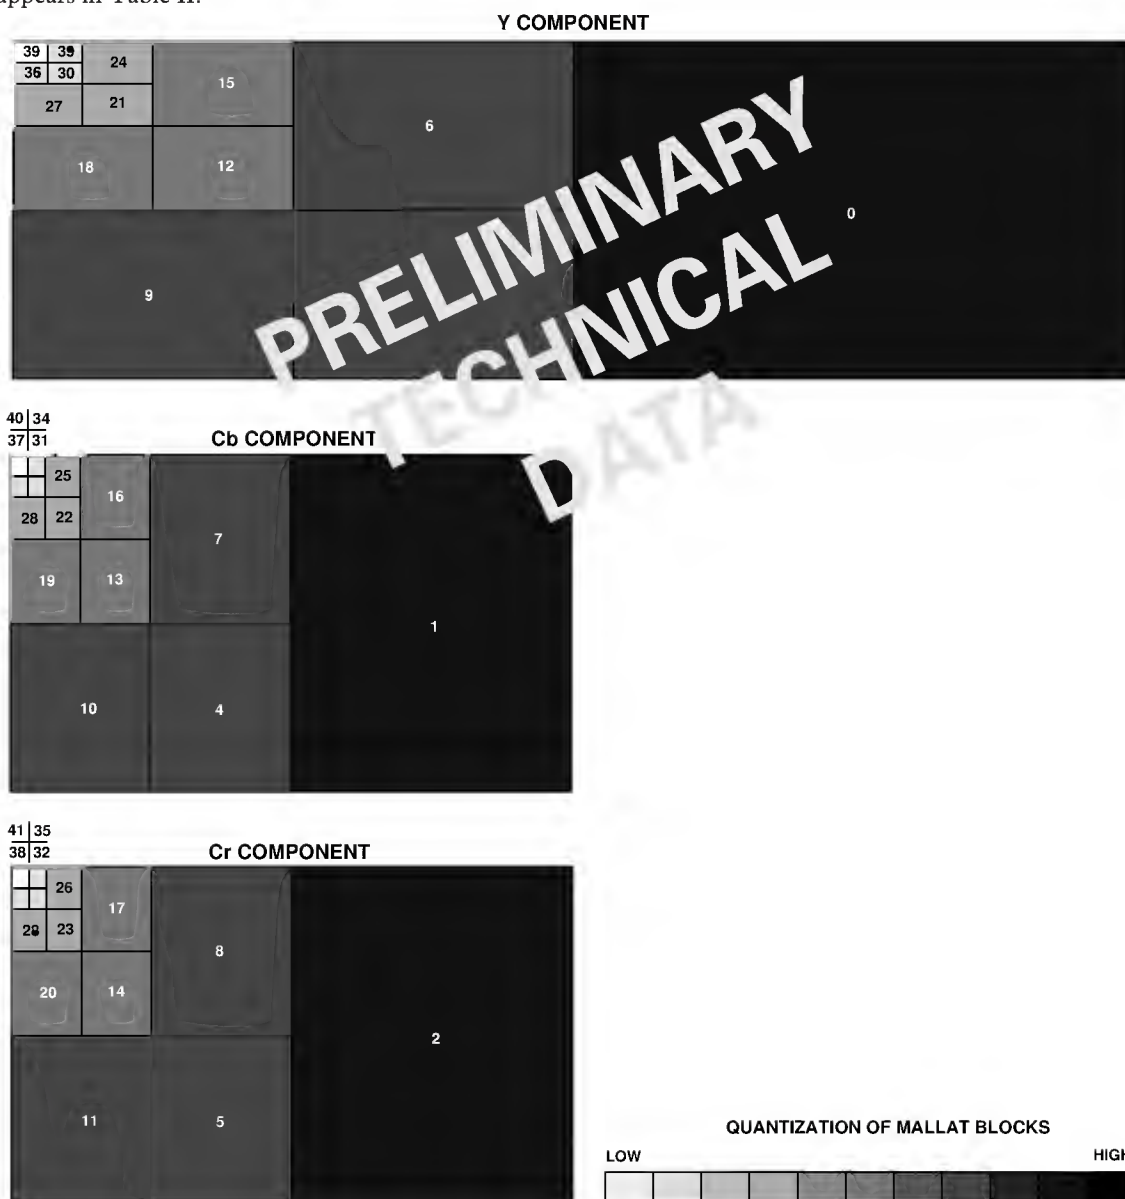

Figure 8. Typical Quantization of Mallat Data Blocks (Graphed)
Figure 8 shows how a typical quantization pattern applies over Mallat block data. The high frequency blocks receive much larger quantization (appear darker) than the low frequency blocks (appear lighter). Looking at this figure, one sees some key point concerning quantization: (1) quantization relates directly to frequency in Mallat block data and (2) levels of quantization range widely from high to low frequency block. (Note that the fill is based on a log formula.) The relation between actual ADV601LC bin width factors and the Mallat block fill pattern in Figure 8 appears in Table II.
¹The Mallat block numbers, Bin Width factors, and Reciprocal Bin Width factors in Table II correspond to the shading per-cent fill) of Mallat blocks in Figure 8.